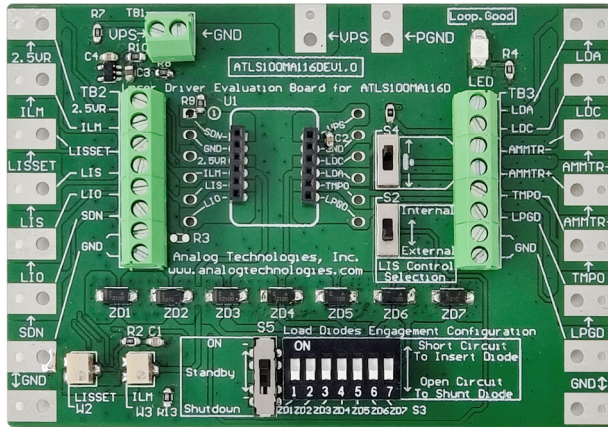

Figure 1. Physical Photo of ATLS100MA116DEV1.0
The ATLS100MA116DEV1.0 Evaluation Board is consisted of a complete application circuit for driving a laser diode. It can set the output current, the output current limit, has an LED for indicating the working status of the controller, has numerous connection pads and terminal connectors for making connections with external components and instruments. Its physical photo of ATLS100MA116DEV1.0 is shown in Figure 1.
- Hook up the power supply. There are 2 solder pads in the upper center area on the edge for connecting the power supply voltages. The connection can be done by clipping or soldering on the pads, or use the screws to lock in 2 wires through the terminal block TB1, see Figure 1. Usually the power supply is set to 12V.